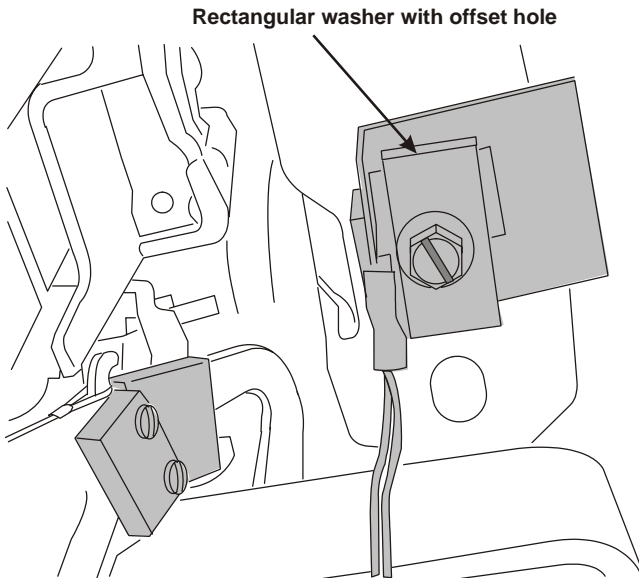

Figure 4.4
- ☐ Mount the switch bracket to the frame under the dash. Note the location of the rectangular washer, the hole is offset to provide more clearance (Figure 4.4).